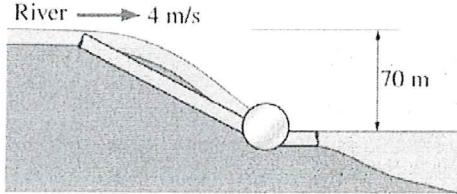

Figure 1
1. Consider a river flowing toward a lake at an average speed of 4 m/s at a rate of 500 m³/s. The river bed is at a location of 70 m above the lake surface (figure 1). Determine the total mechanical energy of the river water per unit mass and the power generation potential of the entire river at that location.